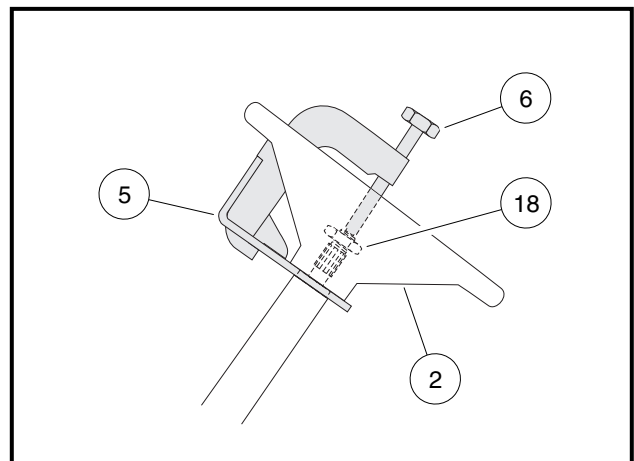

Figure 7-2 Steering Wheel Puller
- 7.3. Rotate the anvil screw (6) clockwise until the base plate contacts the bottom of the steering wheel at the steering column (**Figure 7-2, Page 7-1**).